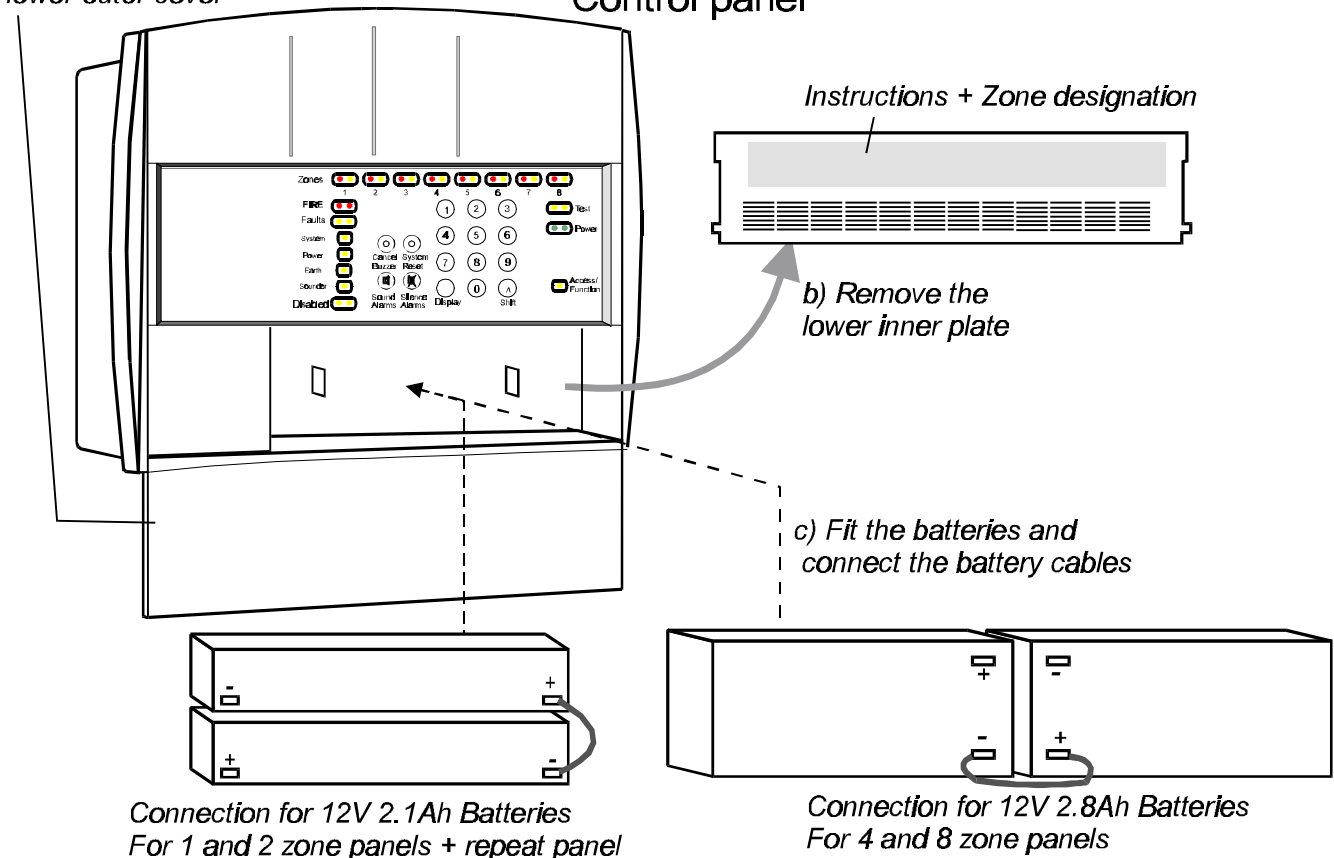

Figure 13 Battery installation
- d) Now connect the battery supply, see Figure 13.
- b) Fix the label over the zone designation part of the lower inner plate, see figure 13.